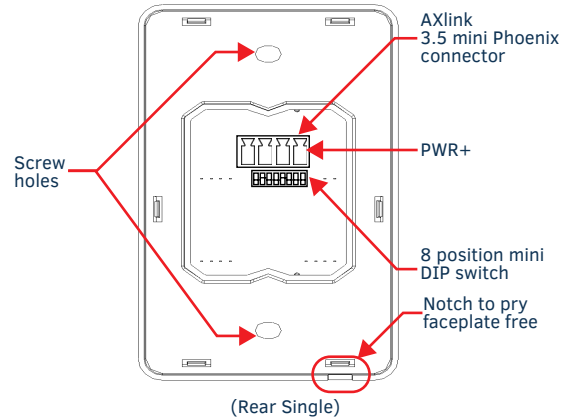

FIG. 2 LOCATION OF KEY COMPONENTS ON THE MIO MODERO IR CIRCUIT BOARD
Set the receive AXlink device number before installing the Mio Modero IR. FIG. 2 illustrates the location of key components on the Mio Modero IR circuit board.
2. Locate the 8-position Device DIP switch (FIG. 2).